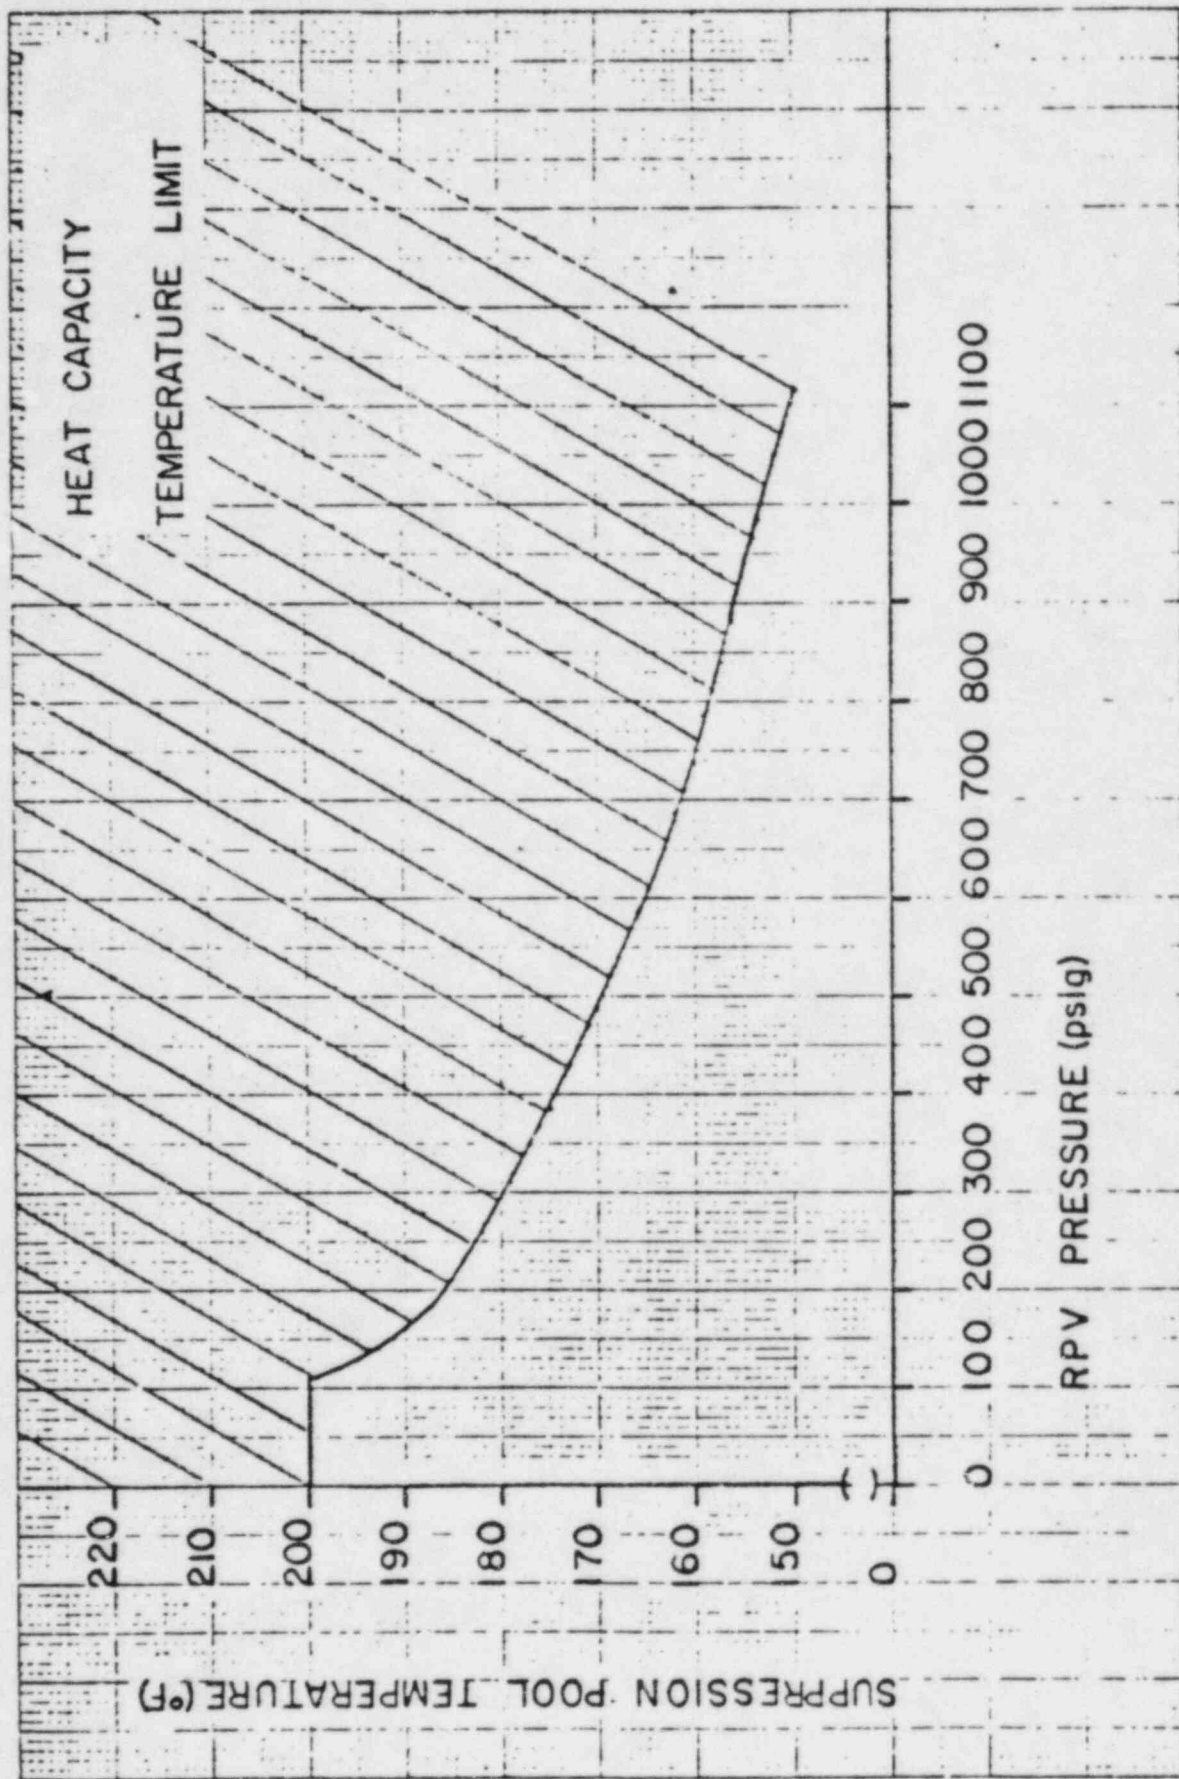

FIG 1
- a. List the five (5) entry conditions and setpoints for SF 29.023.03, 'Containment Control Emergency Procedure'. (1.0)
- c. 1. If Suppression Pool temperature is 160 degrees F, and RPV pressure is 600 psig, have you exceeded the heat capacity limit of the ATTACHED figure 1? (0.5)